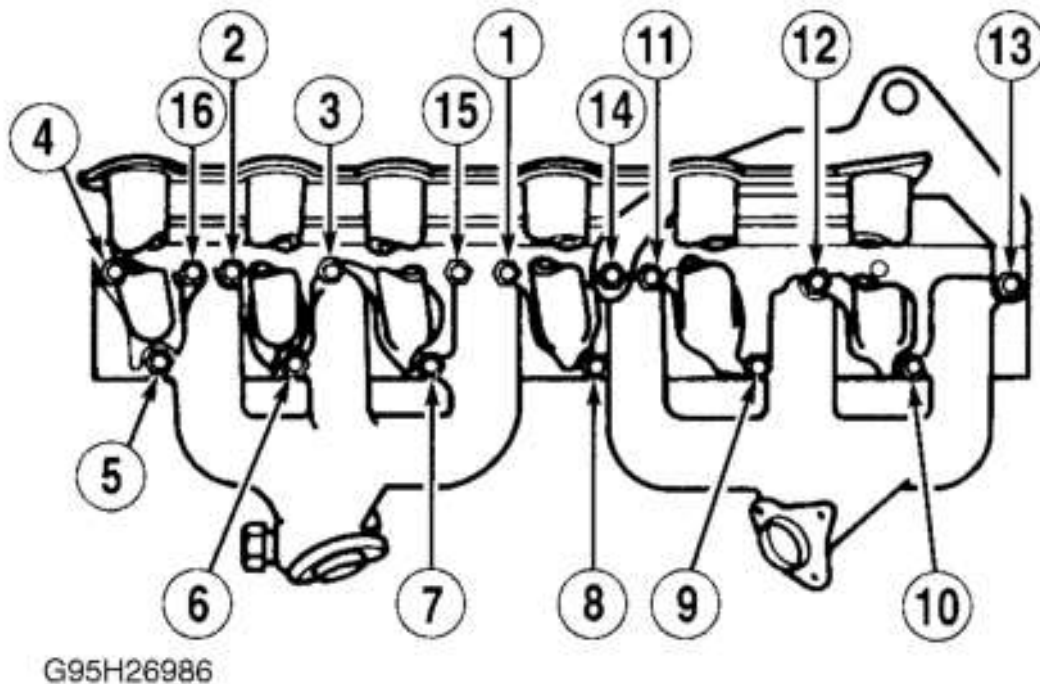

Fig. 3: Lower Intake & Exhaust Manifold Tightening Sequence
2. Position lower intake/exhaust manifold assembly on cylinder head. Ensure gasket remains in position. Tighten bolts and nuts in sequence to specification. See **Fig. 3**. See **TORQUE SPECIFICATIONS**. To complete installation, reverse removal procedure.